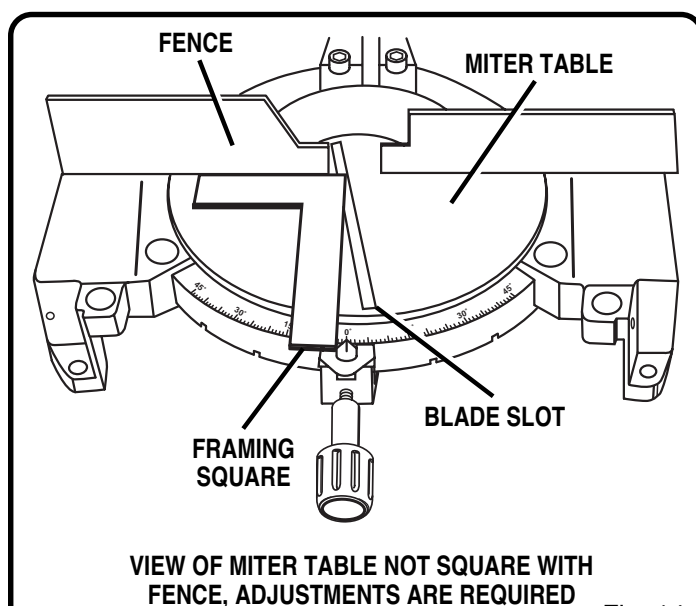

Fig. 14
- If the edge of the framing square and the blade slot in the miter table are not parallel as shown in figures 14 and 15, adjustments are needed.